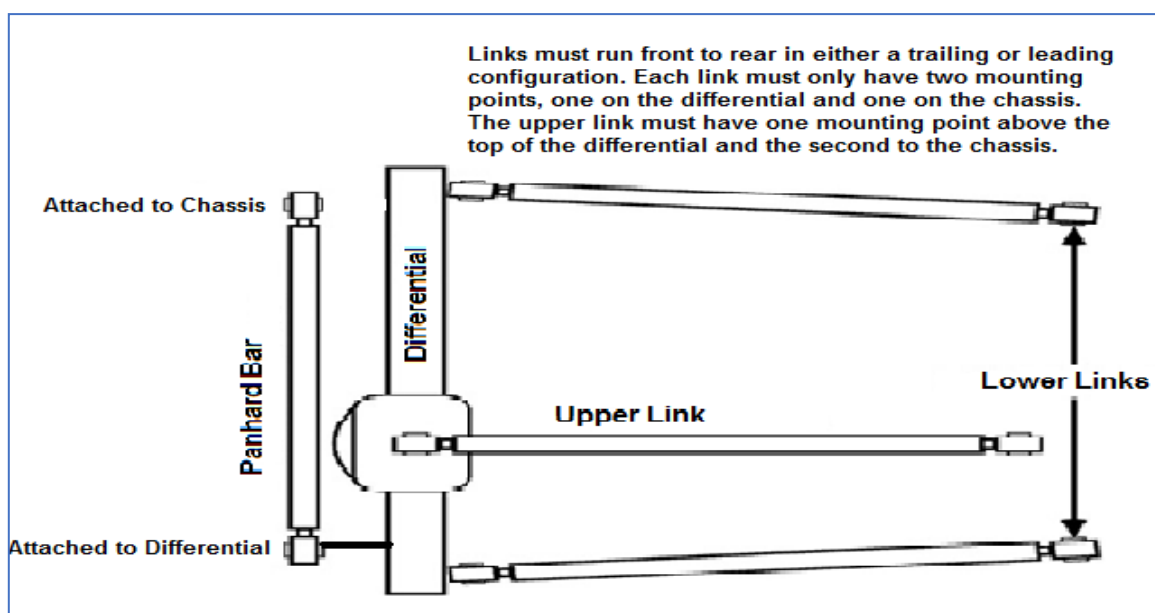

Figure 18
- 25.4** The only rear suspension allowed is the three-link design which consists of two lower control-arms and one upper pull bar. These control the up and down movement of rear end (*Figure 18*). One Panhard bar or J-Bar is allowed for the side to side location of the rear end. No sliding Panhard bar allowed.